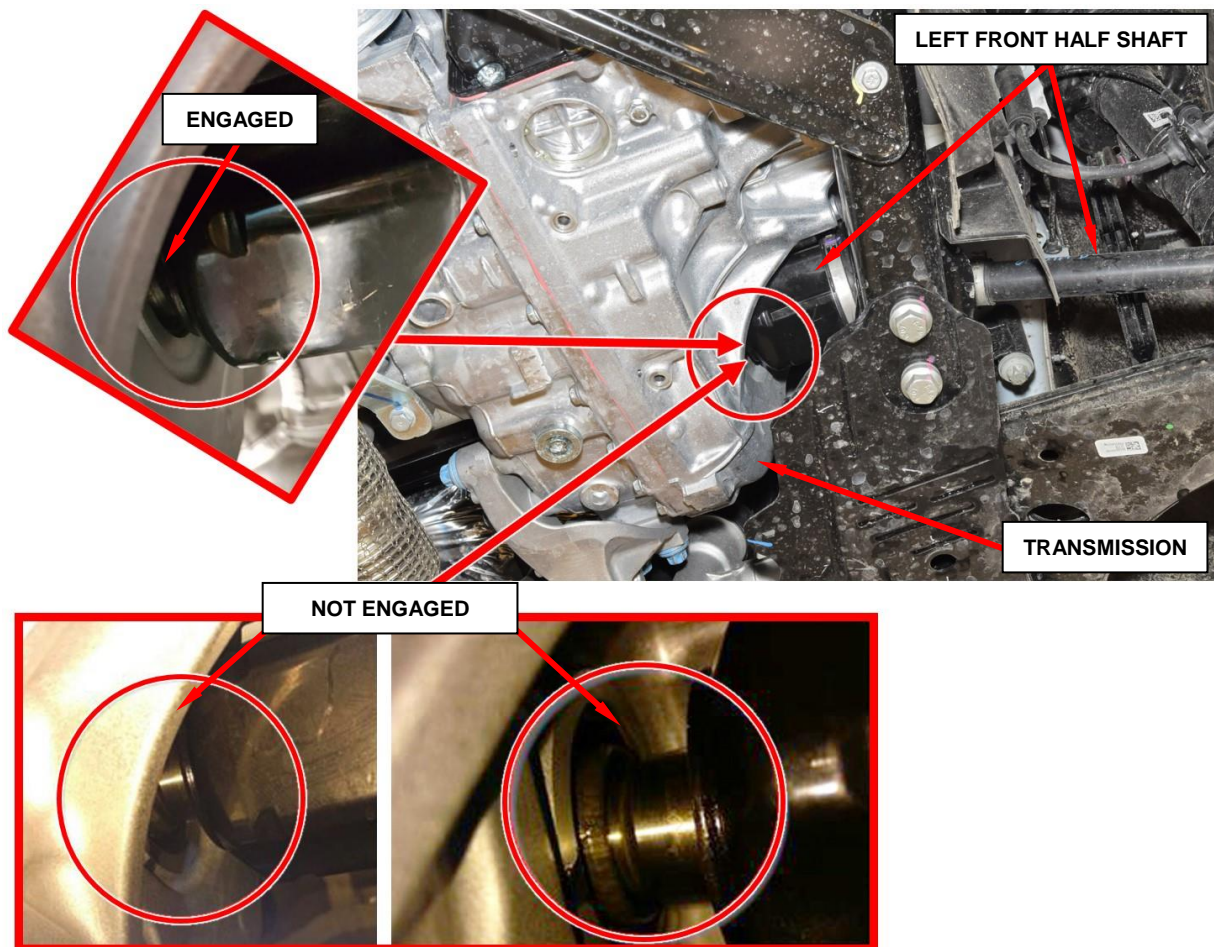

Figure 1 – Inspect Left Front Half Shaft Engagement Into Transmission
3. Visually inspect that the left front half shaft is fully engaged into the transmission side gear (Figure 1).